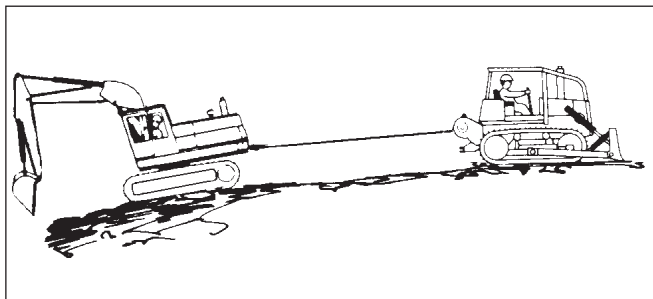

Figure 25 Moving a Disabled Vehicle (Step B)
**B.** A dozer or skidder equipped with a winch can be used to pull another vehicle from mud or other areas where it cannot move using only the drive wheels or tracks. See Figure 25. Use the following procedure: